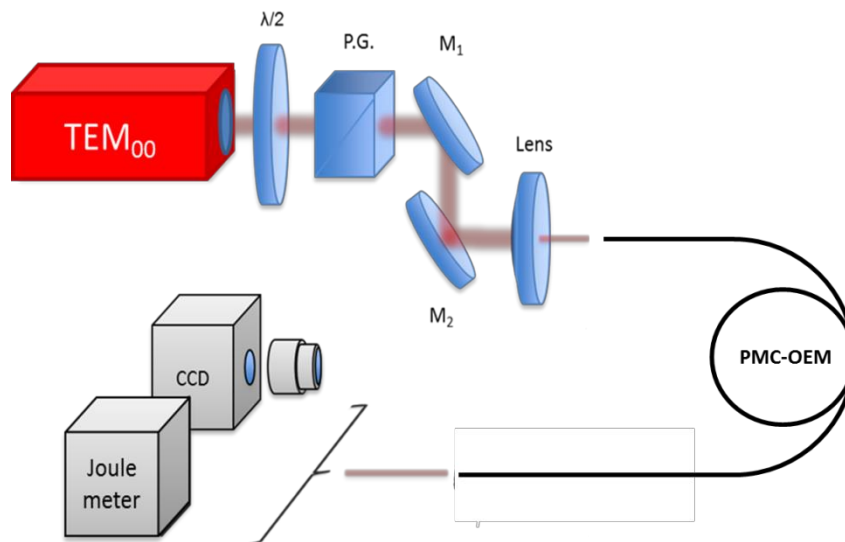

Fig 7.2 Typical Launch Setup
1. Calculate the optimal focal length for the lens, using the information given in 7.2.1 above. Note: the NA and MFD of this PMC-OEM is given in section 3. Bear in mind that it may be necessary to adjust the beam diameter of the laser beam (the components to do this are not shown in fig 7.2 above)
2. Arrange for the power/pulse energy of the laser beam to be attenuated without introducing any movement to the beam. A suitable way of doing this is to use a half-waveplate ($\lambda/2$) and polariser (P.G.) as shown in fig 7.2. To adjust the power, rotate the wave-plate and not the polariser, since polarisers for high energy laser beams often steer the beam as they are rotated.
6. Adjust the position of the Input tip in both transverse (X, Y) and focus (Z) directions so that at the output of the fibre the light is contained within in a single mode at the centre of the fibre core and there is minimal light seen in the cladding. Note it may be necessary to adjust the gain of the camera so that the light in the cladding is visible despite there being very much more light in the core.